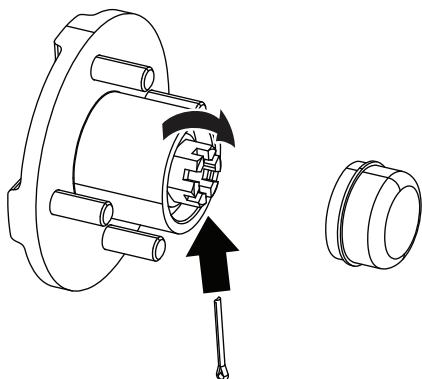

Figure 39
8. Install the nut retainer and check the alignment of the slot in the retainer and the hole in the spindle for the cotter pin (Figure 39).